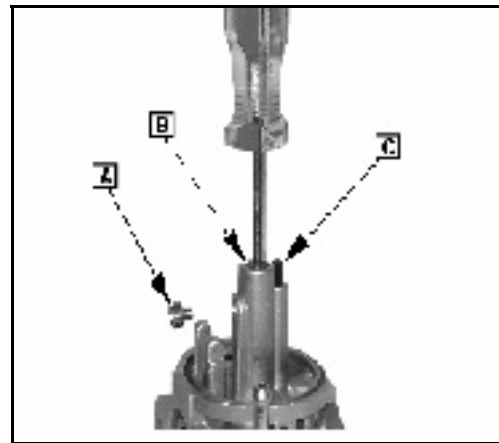

Fig. 111
3. Remove main jet first ([A] Fig. 111) with a carburetor jet screwdriver.
4. Remove carburetor emulsion tube ([B] Fig. 111).
5. Remove rubber plug ([C] Fig. 111).